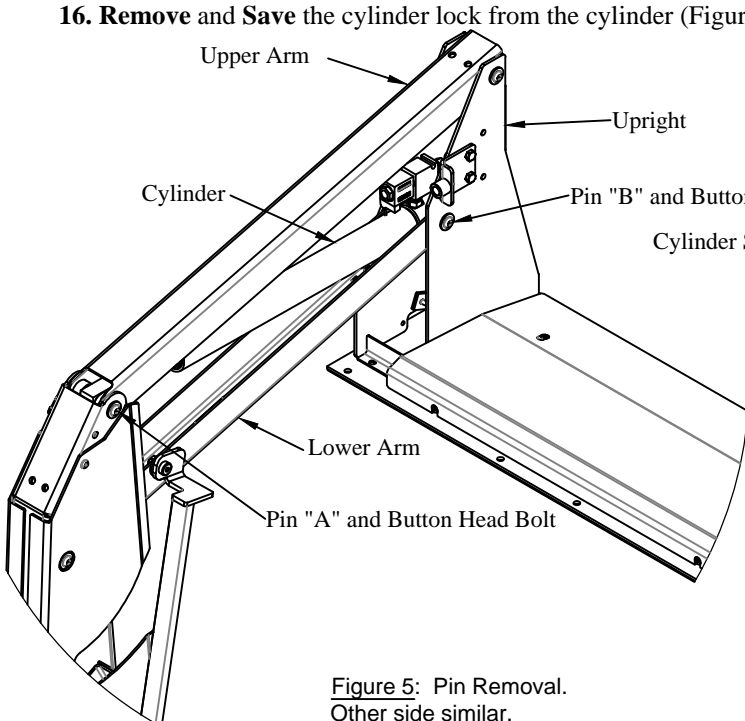

Figure 5: Pin Removal.
3. **Remove** and **Discard** the button head bolts from pins "A" and "B" (Figure 5).
4. **Place** a rag or piece of cardboard in the lower arm to protect the paint from the cylinder (Figure 5).
5. **Remove** and **Discard** pin "A" (Figure 5).
13. **Remove** and **Discard** pin "B" (Figure 5).